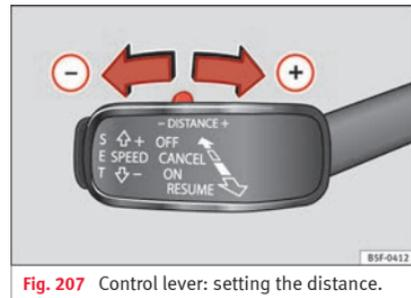

Fig. 207 Control lever: setting the distance.
- To display the distance currently programmed, briefly press the rocking button » Fig. 207.